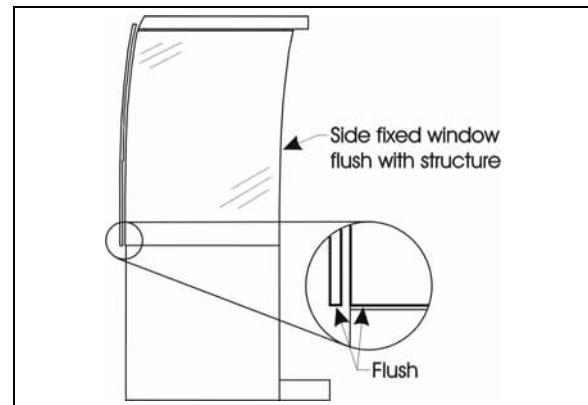

FIGURE 62 : SIDE WINDOW
11. Install side window on the slide-out structure as per FIGURE 62;